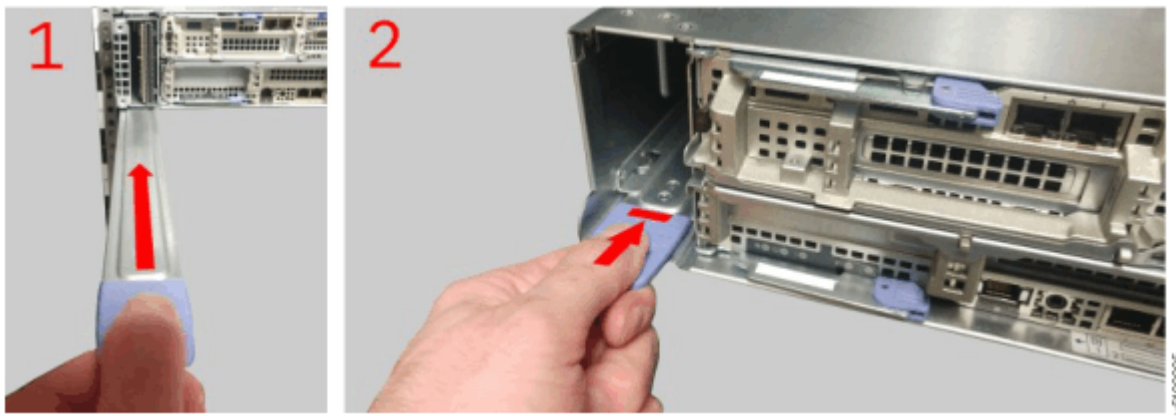

Figure 90. Inserting the new power interposer
5. Hold the power interposer so that the connectors are near the PSU slot, as shown in Figure 90 on page 140 \(1\).
6. Slide the power interposer into the PSU slot until the handle is the only part that is visible at the rear of the enclosure, as shown in Figure 90 on page 140 \(2\).